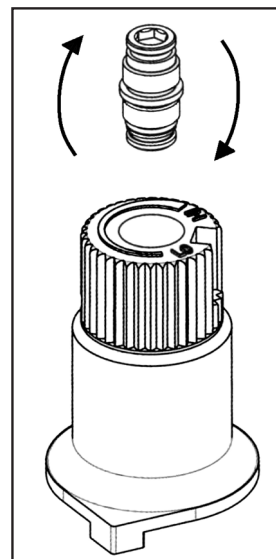

Figure 13: Flip valve screw.
- d) Flip the screw (refer to Figure 13).